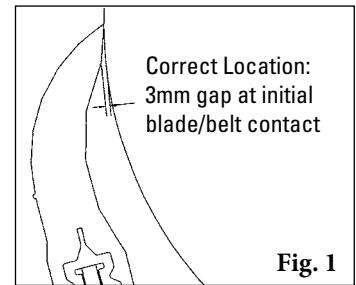

Fig. 1
When blade contact is made against the head pulley (prior to tensioning) there should be a 2mm to 3mm gap at the bottom of the blade face (Fig. 1).
1. Find the X, Y & C specifications. Measure the pulley diameter (including the belt and the lagging) (Fig. 1).